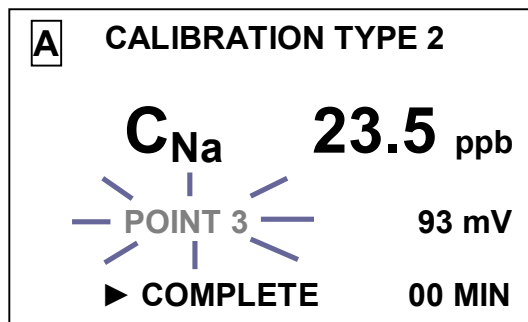

Fig. 2.30
- 16 When the calibration solution vessel shall contain 1/3 of the initial volume, press "menu" button, and the display shown in Fig. 2.30 shall come up.